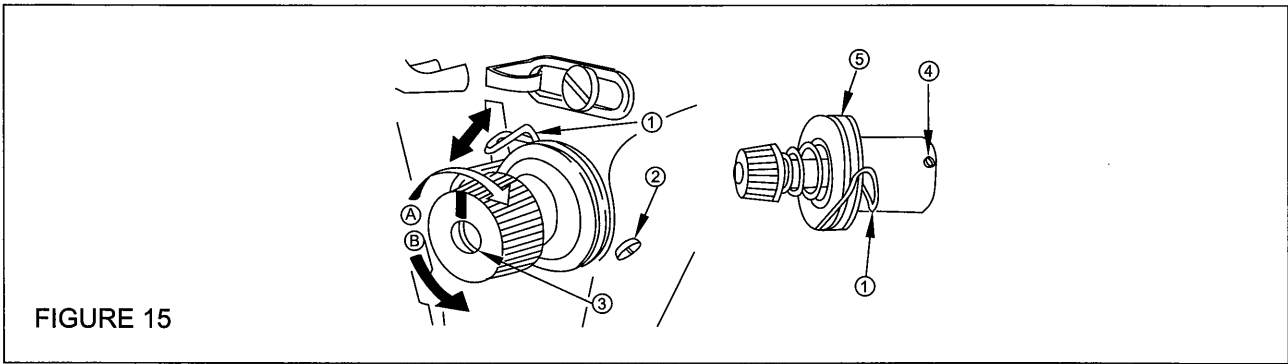

FIGURE 15
- 1) Turn the tension adjusting screw ② clockwise (in direction C), the bobbin thread tension will increase.
- 2) Turn the screw ② counter-clockwise (in direction D), the bobbin thread tension will decrease.
9. THREAD TAKE-UP SPRING (FIGURE 15)